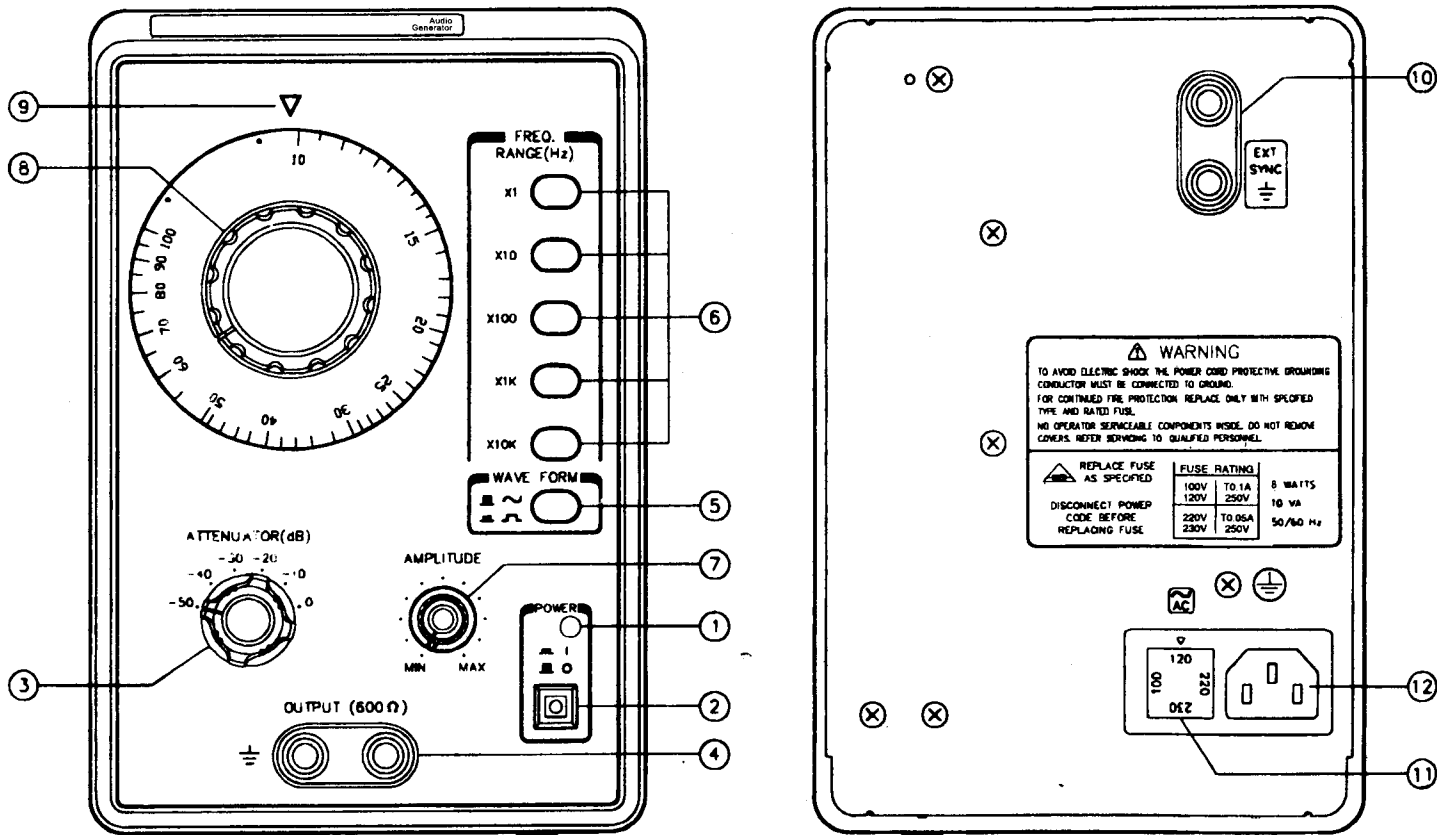

Fig.2
- Casing: 200(W) \times 340(D) \times 270(H) mm
- Overall(include knobs): 130(W) \times 295(D) \times 210(H) mm
- External view: See Fig.2
The table below describes the functions of panel controls. Refer to the panel diagram (Fig.2).